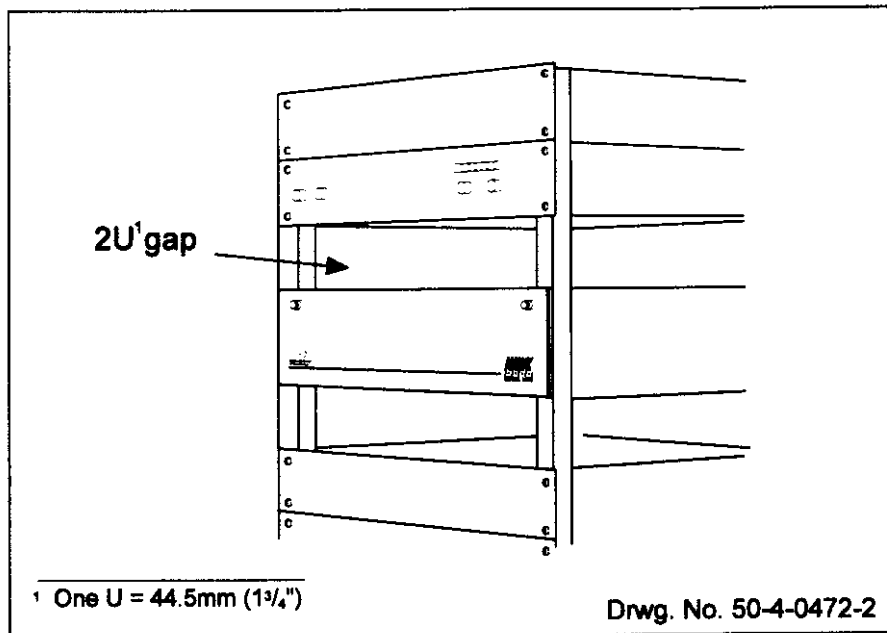

Figure 3.1: Rack Mount Positioning
- > The terminal requires good ventilation, and there should be a gap of at least 2 U between the top and bottom of the terminal and any other equipment in the rack to allow generated heat to escape (see Figure 3.1),